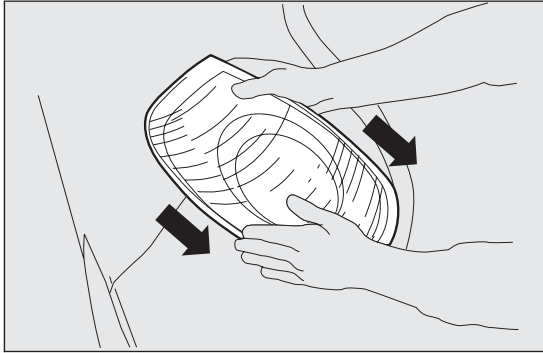

fig. 166
- ❑ extract the light cluster by removing it with both hands in the direction indicated by the arrows fig. 166;